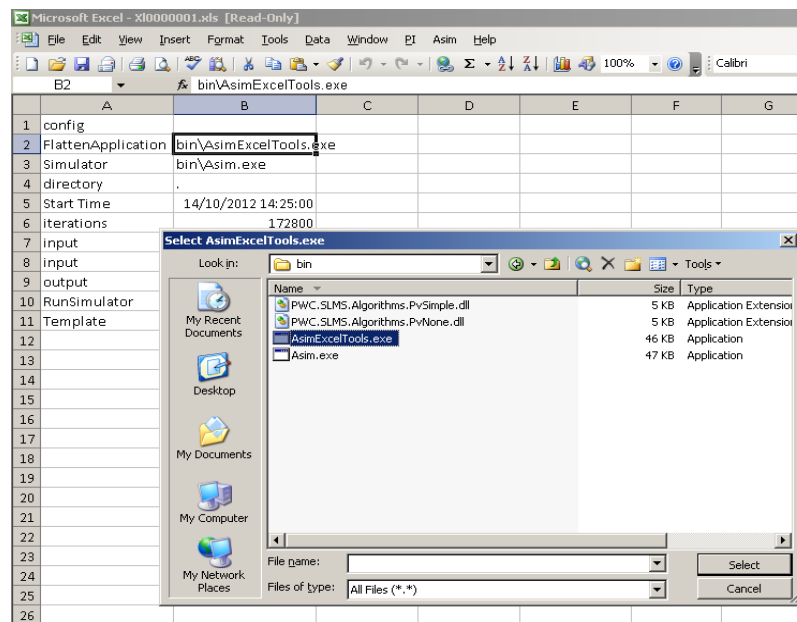

Figure 3: FlattenApplication popup
2. A popup similar to Figure 3 will appear. Locate your ASIM installation directory and open the bin folder. Select AsimExcelTools.exe.